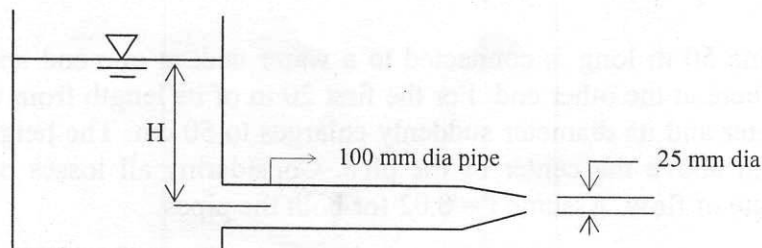

Figure 2
- (b) A nozzle at the end of a pipe (figure 2) discharges oil ( $S = 0.8$ ) from a tank to atmosphere. Estimate the discharge from the nozzle when the head  $H$  in the tank is 4.0 m. The loss in the pipe can be taken as  $20V_1^2/2g$ , where  $V_1 =$  velocity in the pipe. The loss of energy in the nozzle can be assumed to be  $0.11V_2^2/2g$ , where  $V_2 =$  velocity in the nozzle. Also determine the pressure at the base of the nozzle. (16)